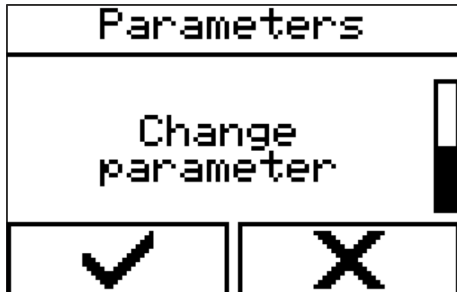

Fig. 130: Selecting a menu
1. ➤ Select the menu via 'Control' → 'Parameter' → 'Change parameter' (Fig. 130).